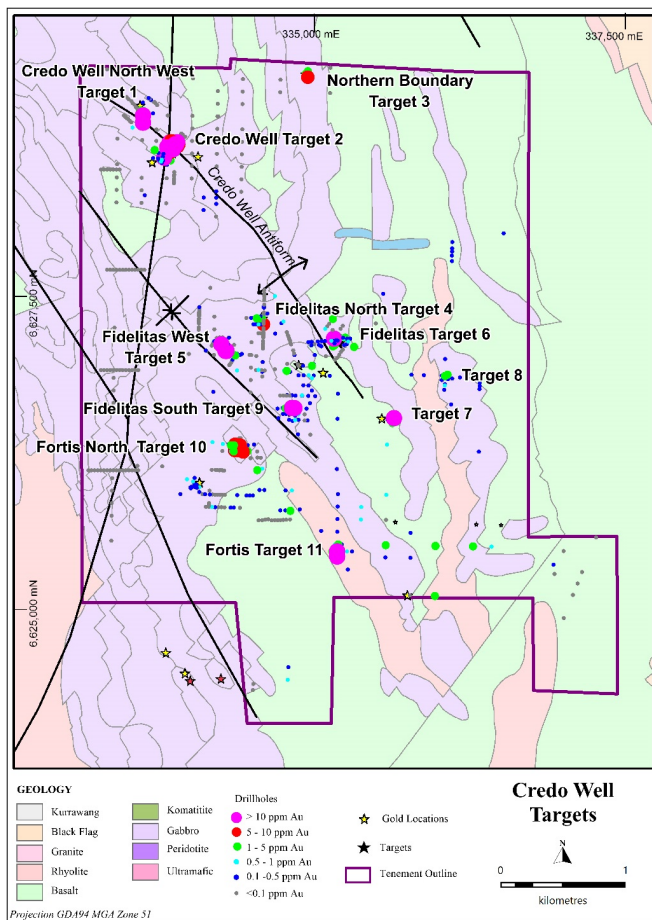
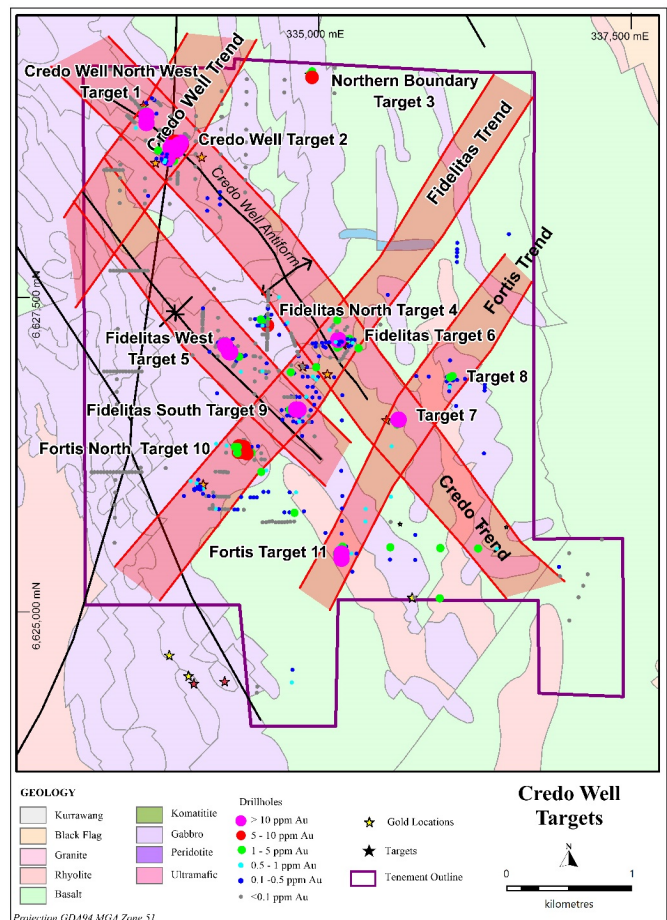

Figure 1 – drill sites Target Map – Credo Well project – 11 Targets
Figure 1.1 – Red highlighted strikes show geological structural trends for gold deposit targets
Dampier has identified 11 priority targets at Credo Well tenements to date, with significant drill intercepts as shown in the following Figure 1 and detailed in pages 4 to 10 of this announcement. Geological structural trends present gold targets at or near to intersections as shown in the red highlighted zones in Figure 1.1.
The Phase 1 reverse circulation (RC) and aircore (AC) drilling program is designed to test 6 of the 11 target areas (Figure 1) as a priority, for supergene and primary mineralisation including further drilling at the Credo Well Mine to enhance the mineralised zones and envelopes defined to date. The aim of the program is to define JORC compliant resources with Priority 1 and Priority 2 drilling, as well as potential supergene and primary zones in other target areas as Priority 3.